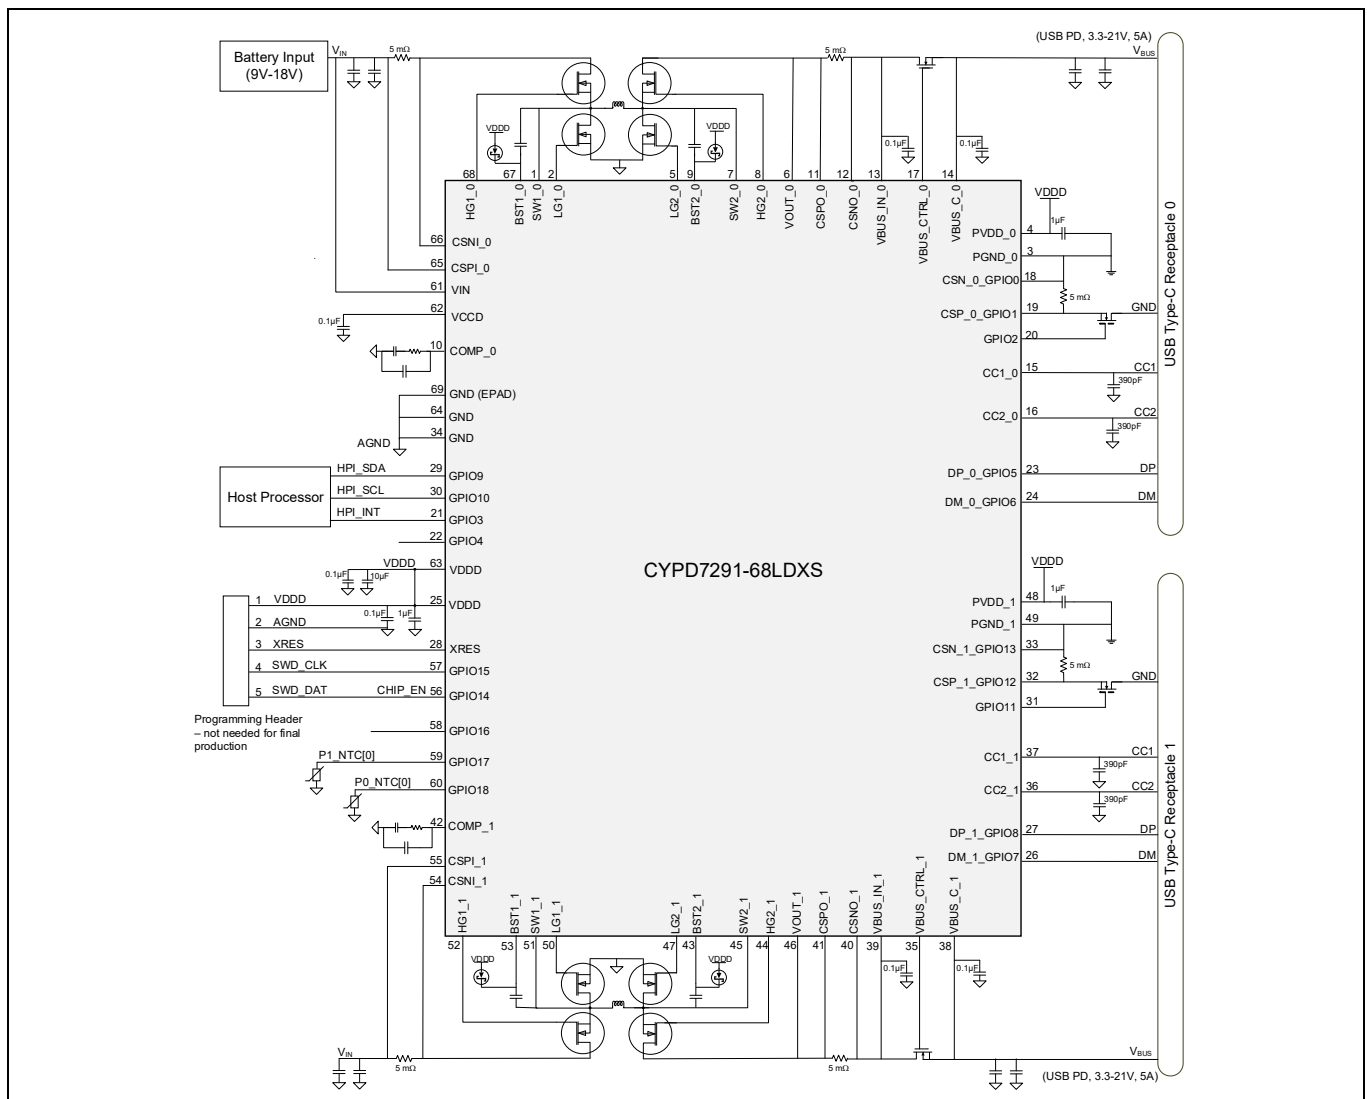

Figure 11 CCG7D head unit charger application diagram
Figure 11 shows a typical head unit charger application block diagram using CCG7D. A head unit charger (also known as center stack) is located prominently in the center of the dashboard or console. They are powered by the car battery and are used for charging the mobile/tablet and for media transfer using USB data communications. In this application, CCG7D will always be in DFP role supporting the charging of the device. It negotiates the power with the connected device and uses the integrated buck-boost controller to supply the required voltage and current.
Table 3 Head unit (HU) GPIO pin mapping for application diagram in Figure 11